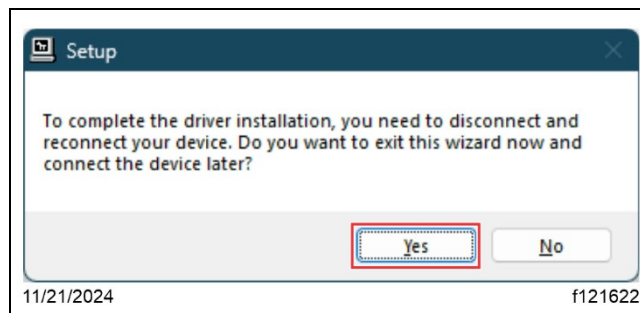

Fig. 45, Completing the Driver Installation
7.17. A 'Setup' window appears, select 'Yes.' See Fig. 45.